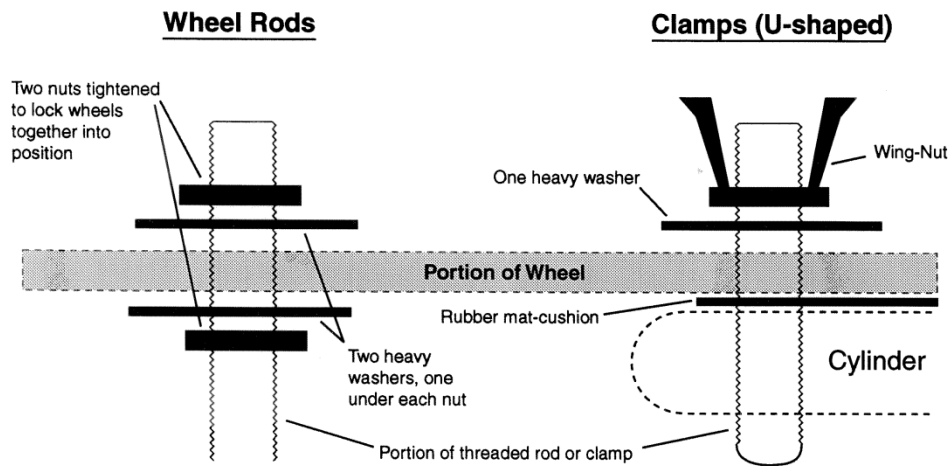

Figure A-3
6. Heat treat and bend a length of threaded rod with an acetylene-oxygen torch into four equal size U-shaped clamps using an empty stainless-steel cylinder as a form. Cut off and grind smooth the ends of each U-shaped clamp at a height of 160 mm. Insert two clamps for each cylinder into the appropriate holes in the center of each wheel and secure the clamp in place with the washers and wingnuts as shown in Fig. A-3 and A-4.